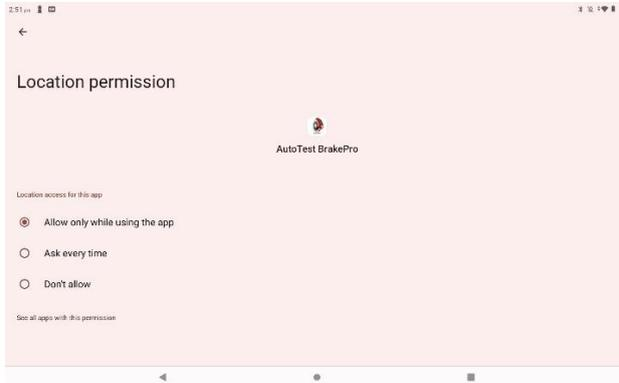

Figure 22
3. Check if the Location permission of the Brake Pro app is set to **Allowed only while using the app** (Figure 22).